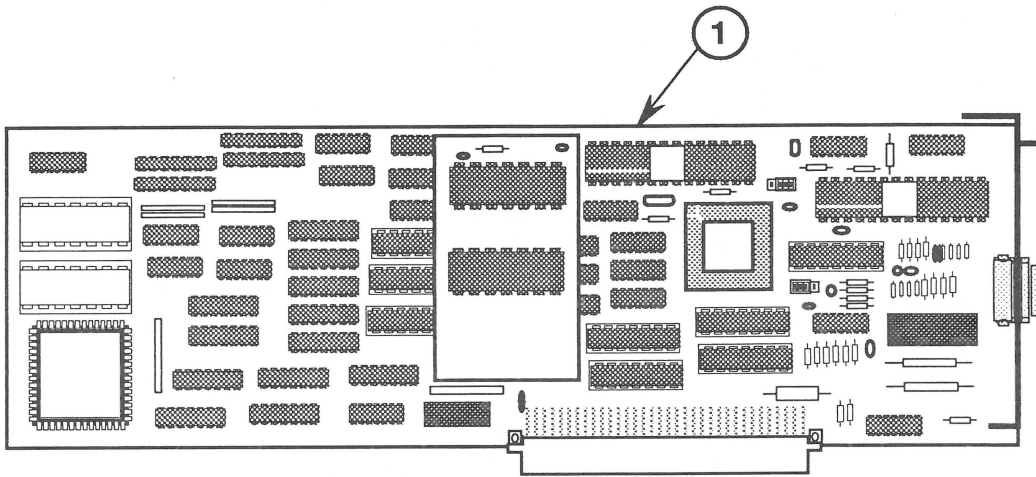

FIGURE 1
- IPL.3 Apple Token Talk NB Card (Figure 1)
APPLE TOKEN TALK NB CARD (Figure 1)